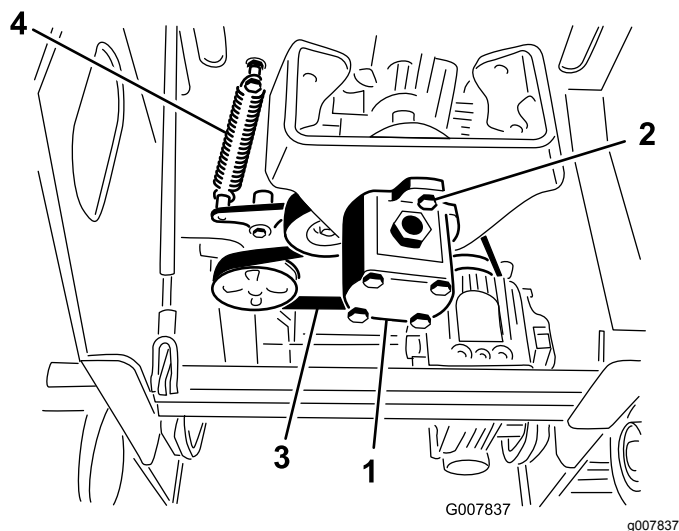

Figure 47
5. Loosen the 2 pump bolts (Figure 47).
6. Twist the pump counterclockwise and allow it to drop down away from the pulley (Figure 47).
7. Using a spring puller (contact your Authorized Service Dealer) or stiff metal hook, pull the end of the idler pulley spring off the spring bolt to release tension on the belt (Figure 47).